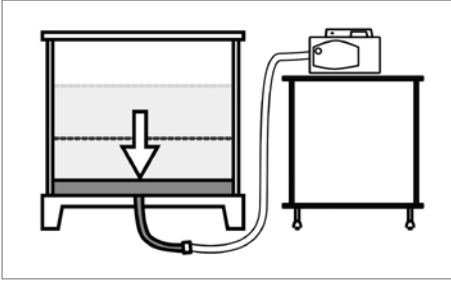

Fig. 24
2. Open any clamps on the draining line (see Fig. 18). Drain the bag – gravity can be used, but for faster draining and maximum product recovery, Sartorius Stedim Biotech recommends the use of a peristaltic pump (see Fig. 24).